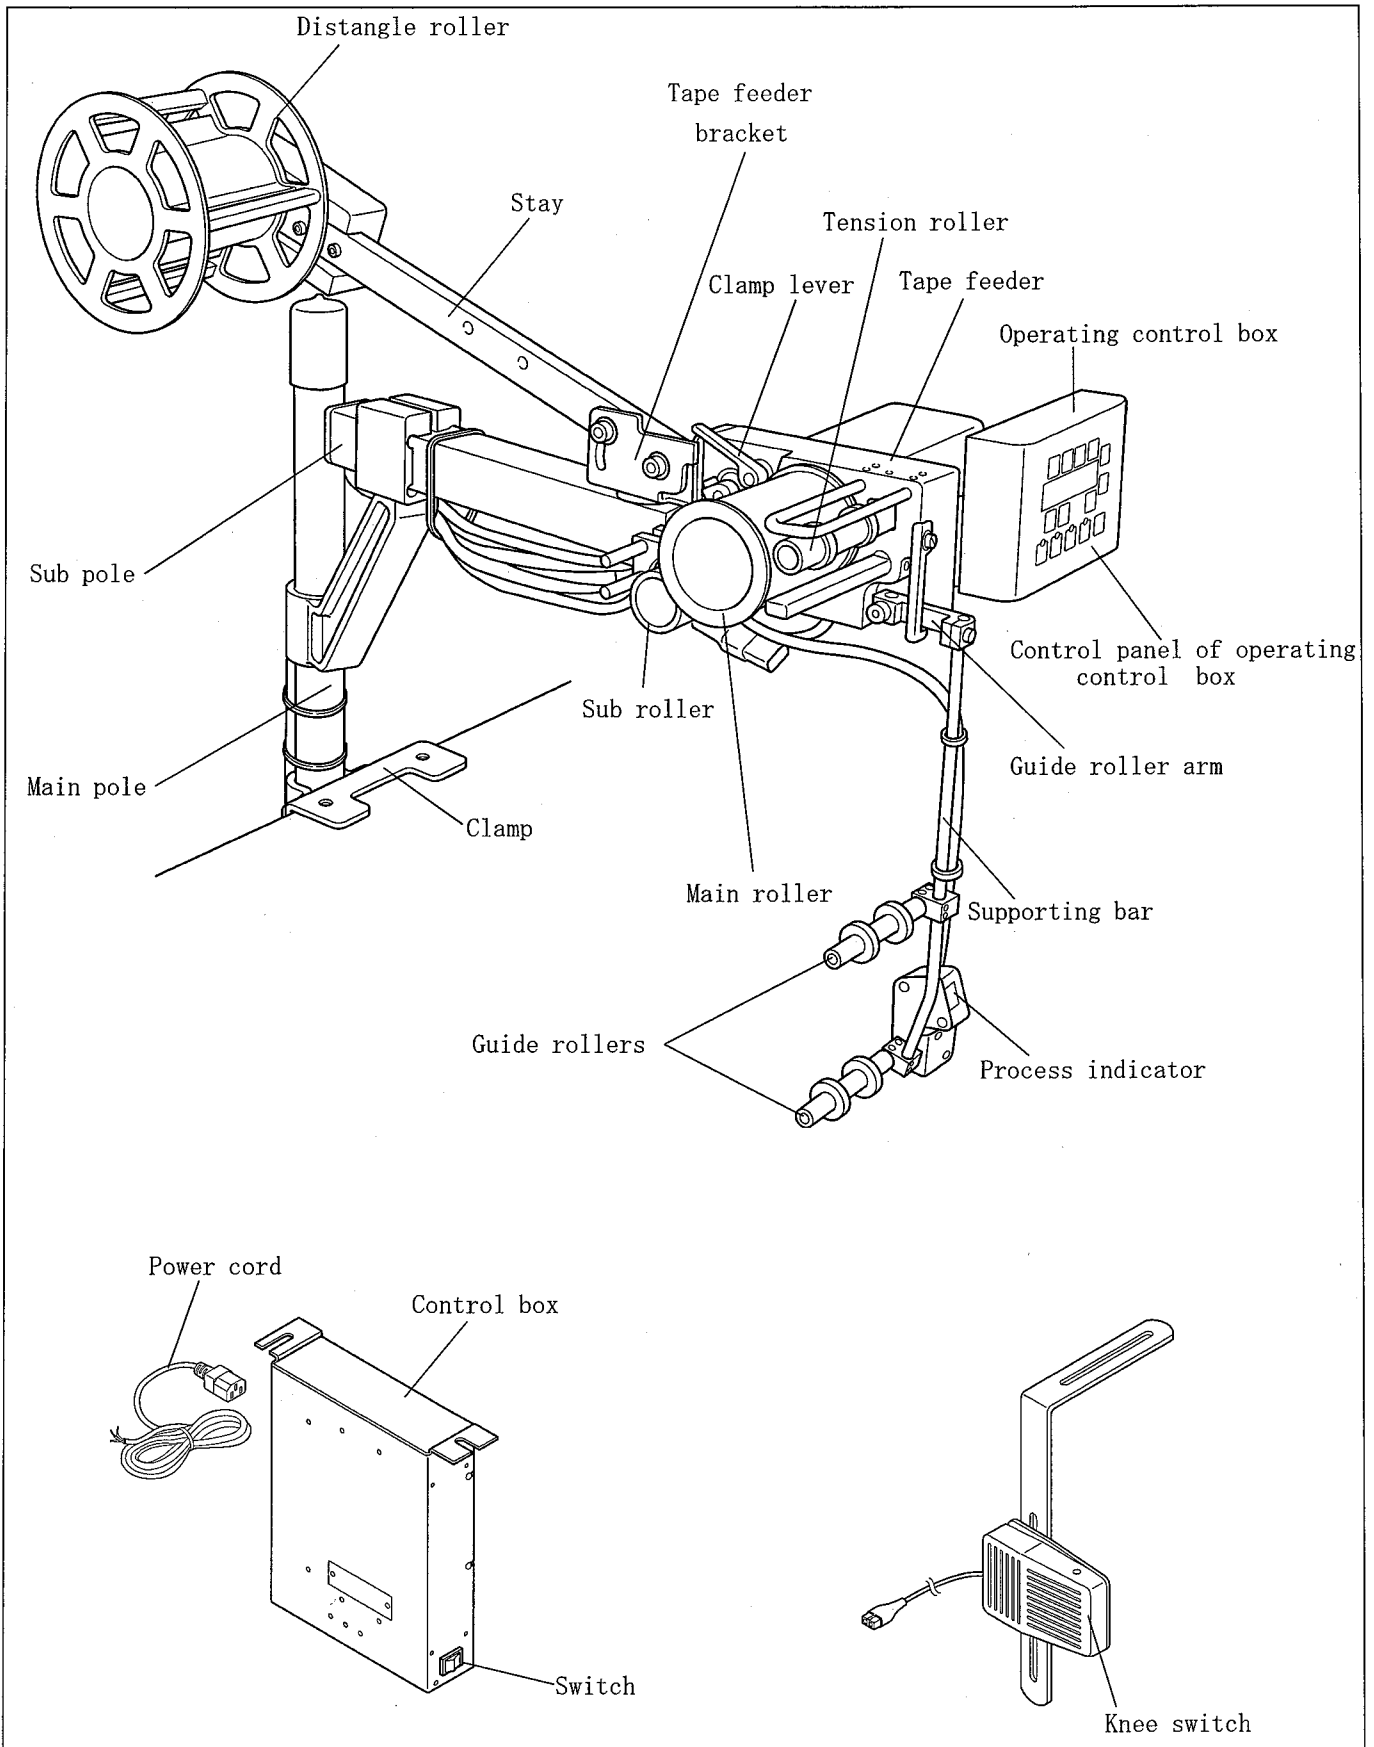
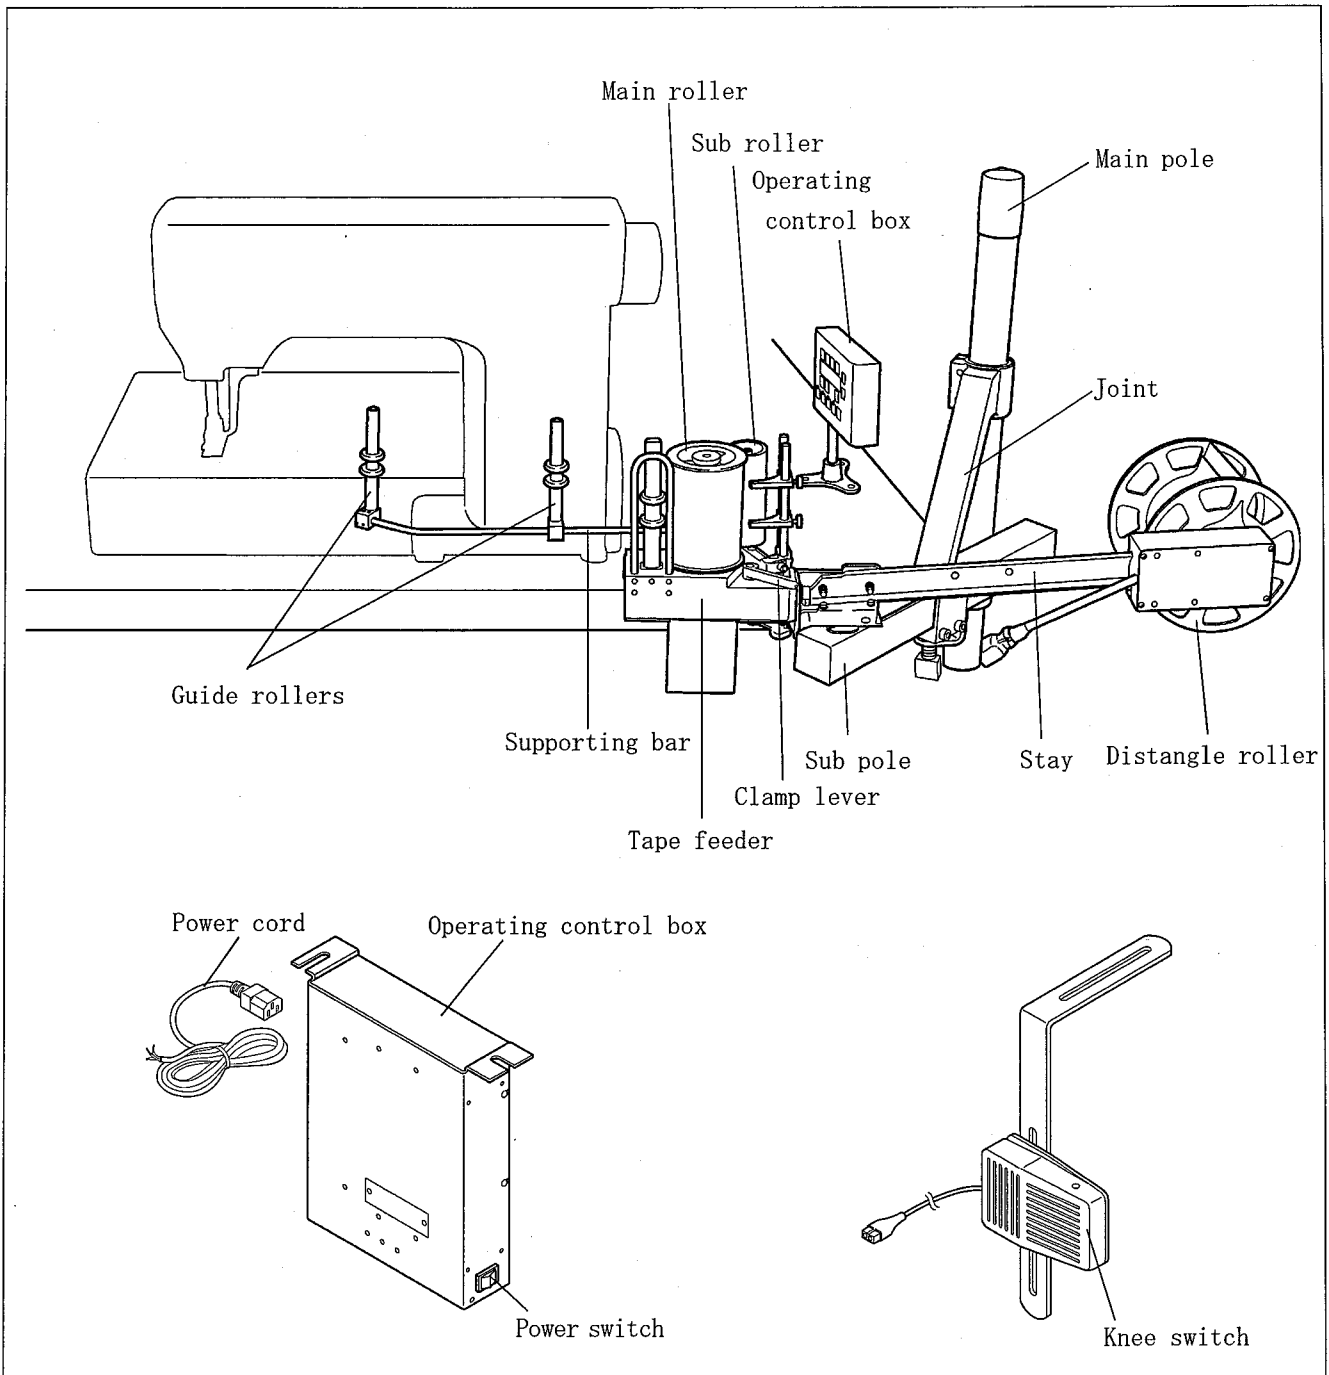

Fig. 1-1
Fig. 1-2
| ④ Installation position            | T: Tape feeding from top (Fig. 1-1)S: Tape feeding from the right side (Fig. 1-2)L: Tape feeding from bottom  |
For installing the right side feeding type, refer to Fig. 1-2.